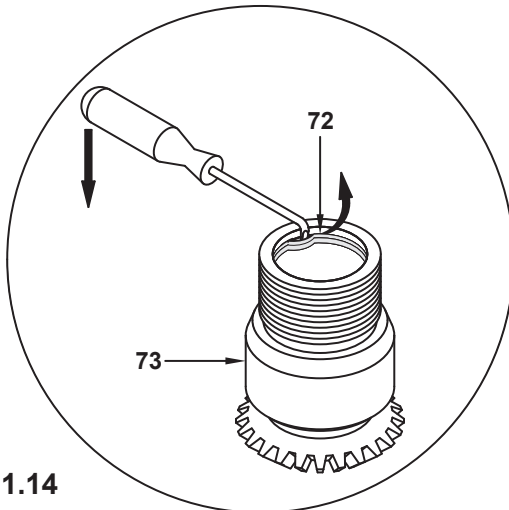

Fig. 1.14
PAY ATTENTION TO THE DIRECTION OF ROTATION, AS IT IS A LEFT-HANDED THREAD (Fig. 1.14).
1.5.06) Use a suitable tool to remove the sealing ring and O-ring pos. 72 from the pinion (Fig. 1.14).